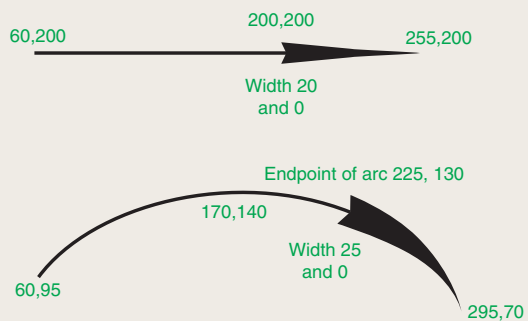

Fig. 2.36 Exercise 9
9. With the **Polyline** tool construct the arrows shown in Fig. 2.36.